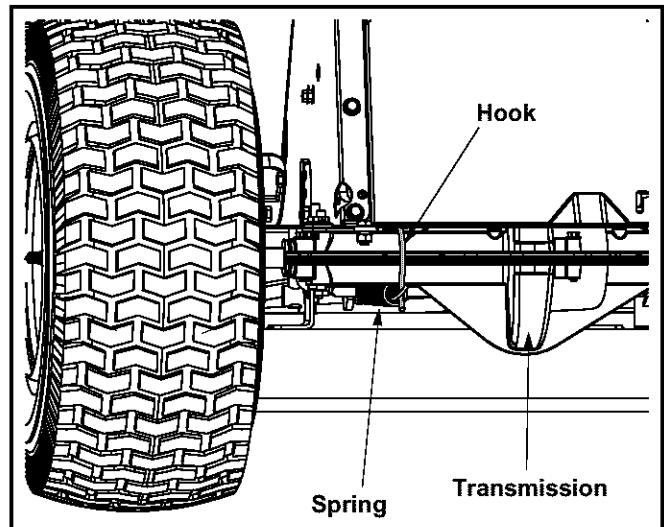

Figure 15
- Using a spring puller (Part No. 732-0571) or other suitable tool, disconnect the spring which is attached to a small hook found on the left, rear portion of the transmission. See Figure 15.
- Using a spring puller (Part No. 732-0571) or other suitable tool, disconnect the spring which is attached to a small hook found on the left, rear portion of the transmission. Refer to Figure 15.